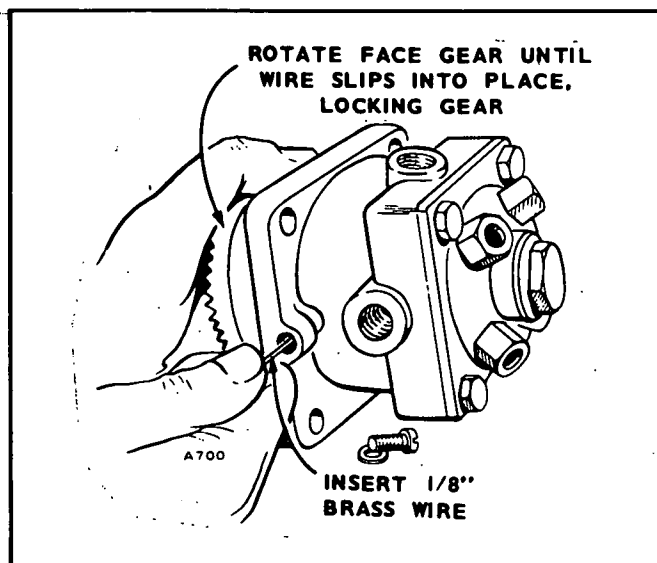

FIGURE 19. INJECTION PUMP
- Turn the flywheel to the port closing mark (PC) on the front cylinder compression stroke.
- Remove the timing hole screw located on the pump mounting flange. Insert a 1/8-inch diameter brass wire into the hole (Figure 19).